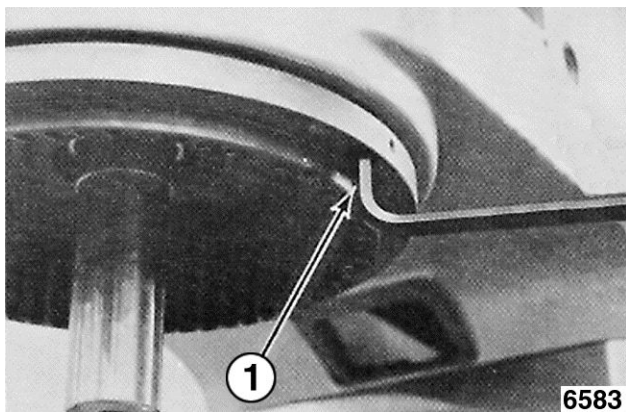

Fig. 37
2. Loosen, but do not remove, the internal gear mounting bolts [1] Fig. 37.